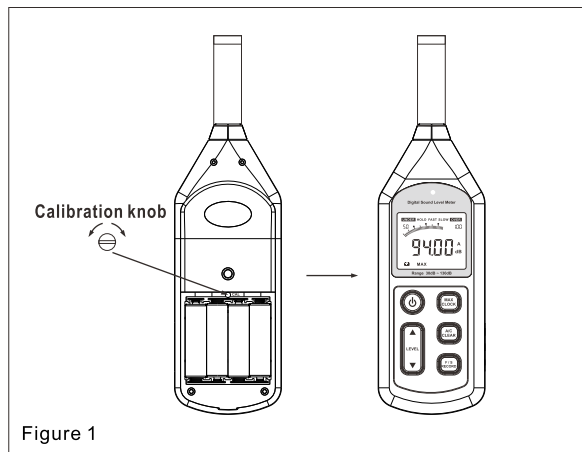

Figure 1
2. Setting on sound level meter: Frequency weighting is A; Time weighting is FAST; Level range is 60 to 110dB. Shown in the Figure 1: